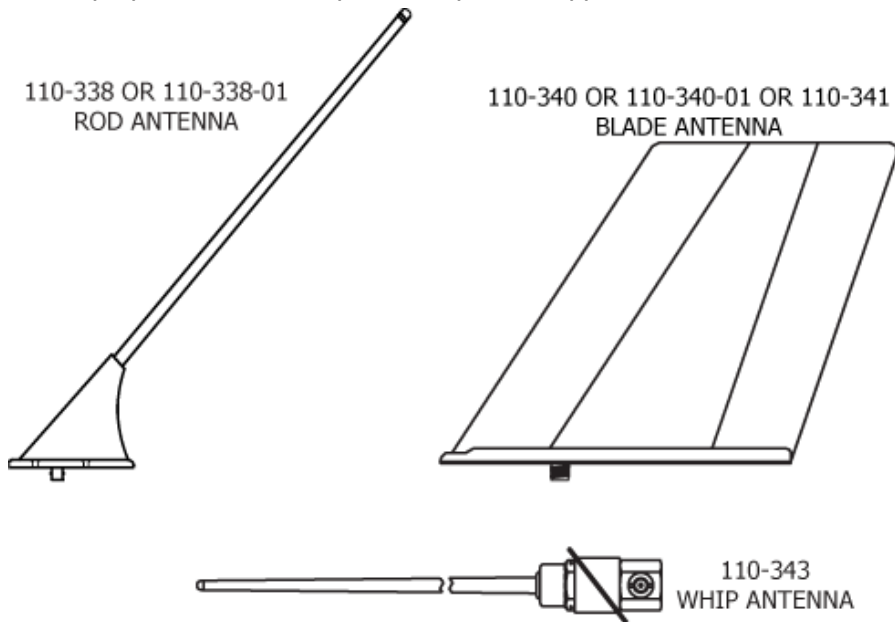

Figure 5 Antennas
- 9) There are 6 antennas that are used with the ARTEX ELT 3000. These are shown in Figure 5. Selection of the proper antenna is dependent upon the application.